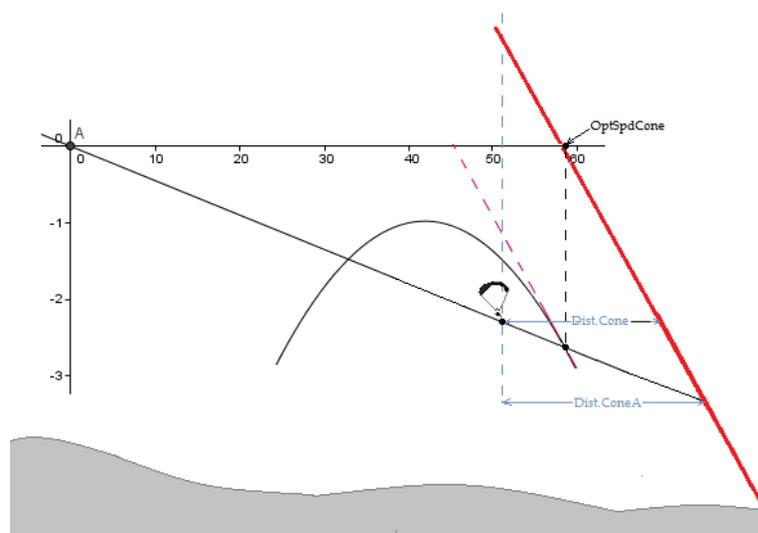

Figure 5.2: Conical End of Speed Section
Consider the same task represented in Figure 4.5, but now the *End of Speed Section* (ESS) is a cone with 4:1 ratio. In order to set up the task you should make the same steps defined above except the step 5. As the cone as a ratio of 4:1 in this step you should set the *Cone* parameter to 4.0. The LIVE SD provides some information to optimize the navigation when the ESS is conical. This information is provided through 5 additional data fields which can be included in a Layout page. Each of the data fields is explained in Section 3.2, but for a better understanding consider the situation of Figure 5.2.
In the example of Figure 5.2, the pilot is flying to the ESS at a certain true air speed (TAS). There is an optimum TAS value which minimizes the time to reach the ESS. This value depends on the polar and cone ratio, and is not affected by the wind or thermals. The LIVE SD calculates the optimal TAS value and show this in the *OptSpdCone* data field. In order to know the TAS the pilot needs a TASProbe. So for the pilots who do not have the TASProbe the LIVE SD calculates the optimal ground speed by adding a Wind component to the TAS. The optimal ground speed is shown in the *OptGndSpdCone* Data Field.
When the ESS is a cylinder the distance to the ESS does not depend on the pilot altitude. On the contrary, when the ESS is a cone the distance to the ESS depends on the altitude. Because of this, the LIVE SD provide 2 distances in 2 different data fields. The *Dist.Cone* data field shows the distance to the ESS at the current pilot altitude (see Figure 5.2). As the glider glide ratio (GR) is usually positive and finite the altitude at which the pilot reaches the ESS is different from the current altitude, so real distance to the cone depends on the GR. The *Dist.ConeA* data field shows the horizontal distance to the ESS considering the expected average GR trough the remaining path (see Figure 5.2).